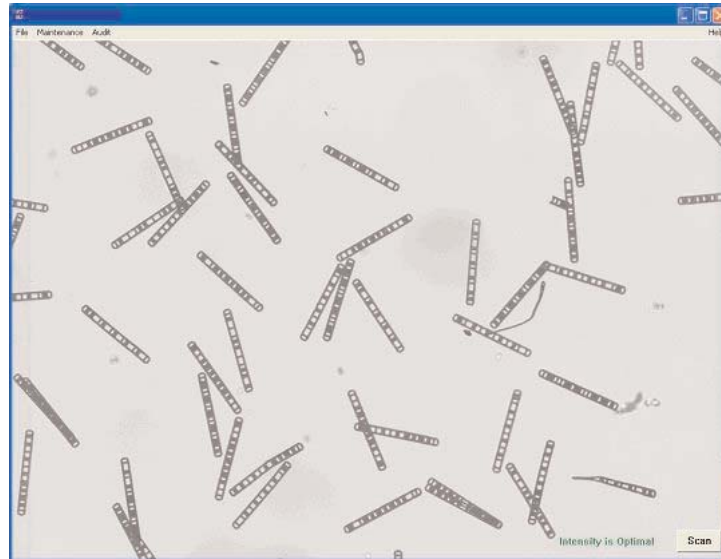
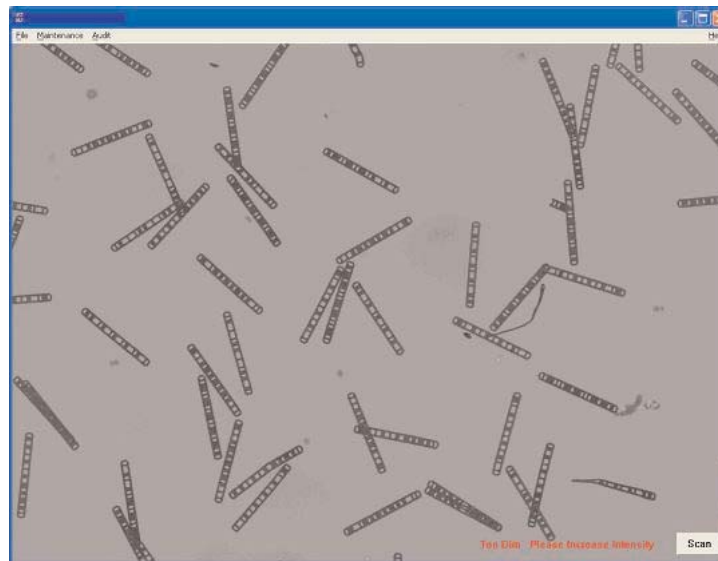
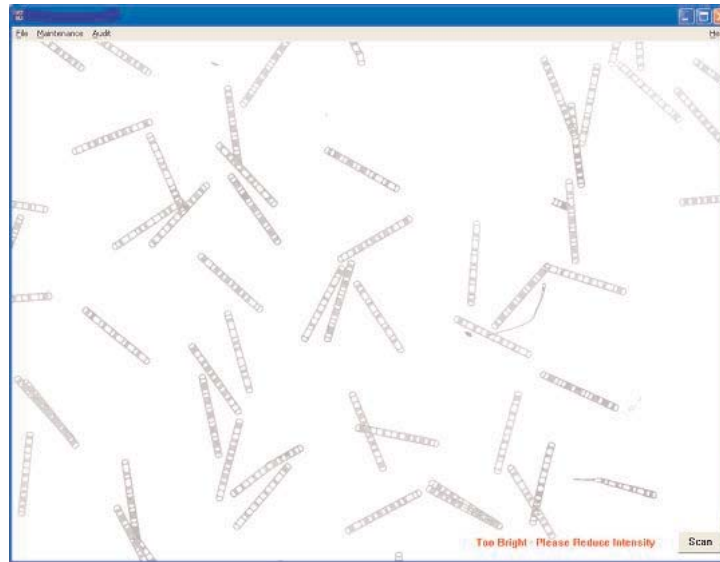

Figure 2. Image of reading plate (optimal light level)
Figure 3. Image of reading plate (below optimal light level - too dim)
Figure 4. Image of reading plate (above optimal light level – too bright)
1. An image of the reading plate will appear (this is an image of the centre of well A1). Depending on the level of transmitted light, there will be one of three messages in the bottom right of the screen: 'Intensity is optimal' (Figure 2), 'Too dim – Please Increase Intensity' (Figure 3) or 'Too bright – Please Decrease Intensity' (Figure 4). If there is no image visible, then refer to the troubleshooting guide (Section 6, page 12).
2. Focus the microparticles using the external focus device and then adjust the transmitted light level until an optimal setting is achieved (Figure 2). When this is achieved the door of the SmartReader should be closed.